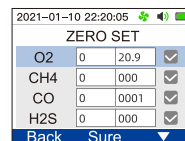
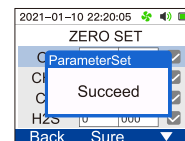

Figure 16
Figure 17
**Zero point calibration:** Calibrate the gas zero point. The user zero point interface (as shown in Figure 16) will continue to pass in gas suitable for zero point calibration for a certain period of time. After the value is stable, click the middle button to confirm and save. There will be a corresponding prompt on the screen when the save succeeds or fails (Figure 17).